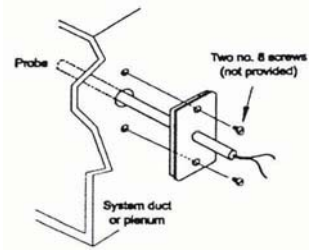

Figure 3. Installing the Flange Mount
5. Make the wiring connections. See Figure 3.